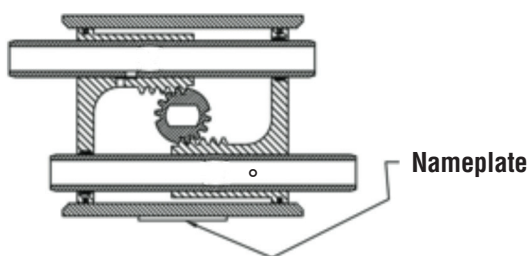
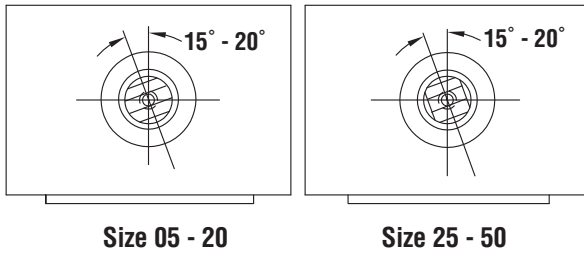

Figure 1
Figure 2
- 14.2.7 Align the shaft so that the teeth on the shaft will “pick-up” the piston assembly’s rack teeth when turning the top extension of the shaft clockwise (CW). (See Figure 1).
IMPORTANT: Proper 90° rotation can only be ensured if the shaft teeth begin to mesh with the piston assembly’s teeth at the “proper tooth” between these meshing gear pairs. (See Figure 1).
- 14.2.8 To ensure proper meshing of teeth, move the shaft 15 to 20 degrees counter-clockwise (CCW) from its normal position when the piston assemblies are located at the body ends. (See Figure 2.) NOTE: The “normal position” of the shaft on the 05–20 sizes is when the top flats are parallel to the main axis of the actuator body. On the 25– 50 sizes the teeth of the shaft will be on the left side of the actuator when viewed from the ends of actuator. (See Figure 1).
IMPORTANT: Align gear teeth on the shaft as per Figure 1.